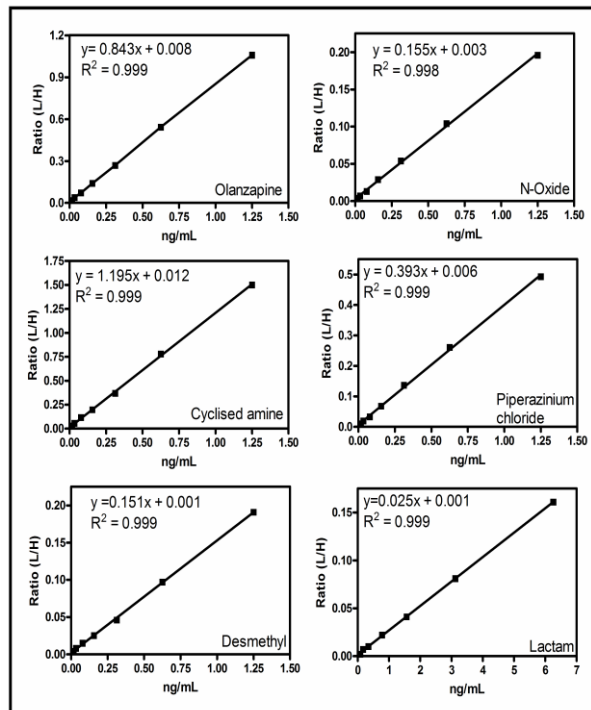

Figure 3: STD curves for Olanzapine and its impurity metabolites.
- The constructed std curve for each metabolite is shown in the figure 3.